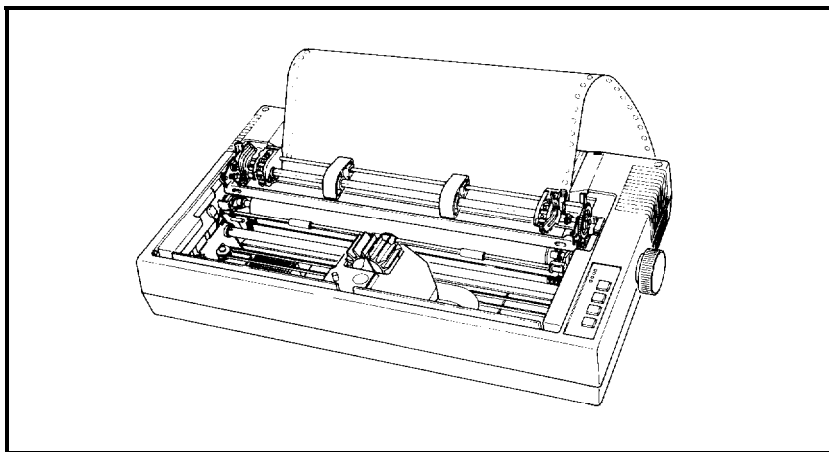

Figure 3-6. Paper inserted
4. Set the paper support skids evenly from the approximate center of the paper width (as shown in Figure 3-6). This helps the paper feed smoothly.
1. Make sure you have a clean top edge. Insert the pin-feed paper into the paper guide slit at the rear of the platen as shown in Figure 3-6. (If the sheet guide unit is installed, slide the paper underneath it.)